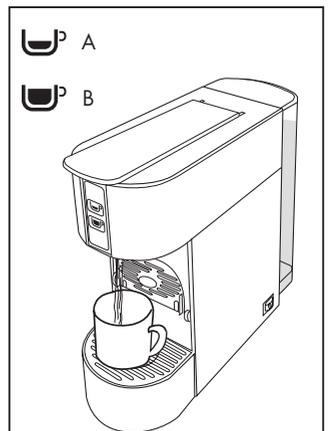

Fig.6
When the buttons (A) and (B) appear with a fixed light the machine is ready for use. Press a button (A) or (B); the machine dispenses water, press the button again when you have obtained the desired amount of water (Fig. 6). The machine is rinsed when at least 3 glasses of water have been dispensed.